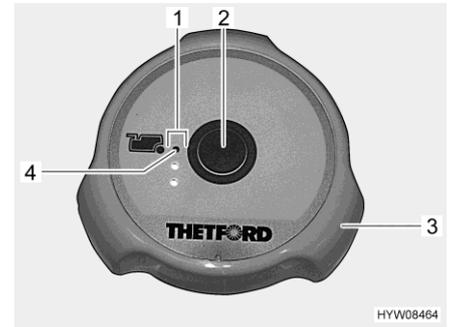

Fig. 202 Flush button/indicator lamps (Thetford toilet)
Flushing: ■ Before flushing open the sliding trap of the Thetford toilet. To do this, turn the rotary handle (Fig. 202,3) in an anticlockwise direction.
■ For flushing, press the blue flush button (Fig. 202,2).
■ After flushing close the sliding trap. To do this, turn the rotary handle (Fig. 202,3) in a clockwise direction.
The indicator lamps (Fig. 202,1) show the filling level of the sewage tank. The red indicator lamp (Fig. 202,4) lights up whenever the sewage tank has to be emptied.